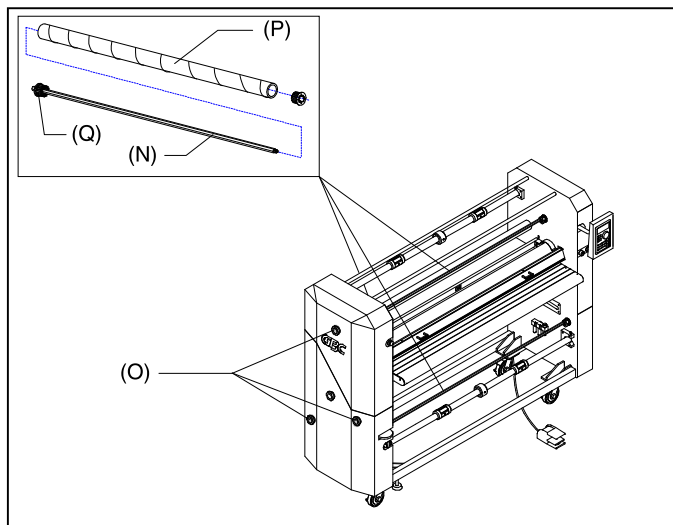

Fig. 15
**N. REWIND SHAFT:** (Figure 15) The rewind shaft holds the rewind tube on the machine.
**O. REWIND BRAKE:** (Figure 15) Located on the left side from the front operating position.
**P. REWIND TUBE:** (Figure 15) The two rewind tubes located at the front of the machine are used to rewind release liners. The one located at the rear of the machine is used to rewind the finished product.
**Q. REWIND ADAPTORS:** (Figure 15) Hold and lock the rewind tube on the rewind shafts to prevent side to side shifting.